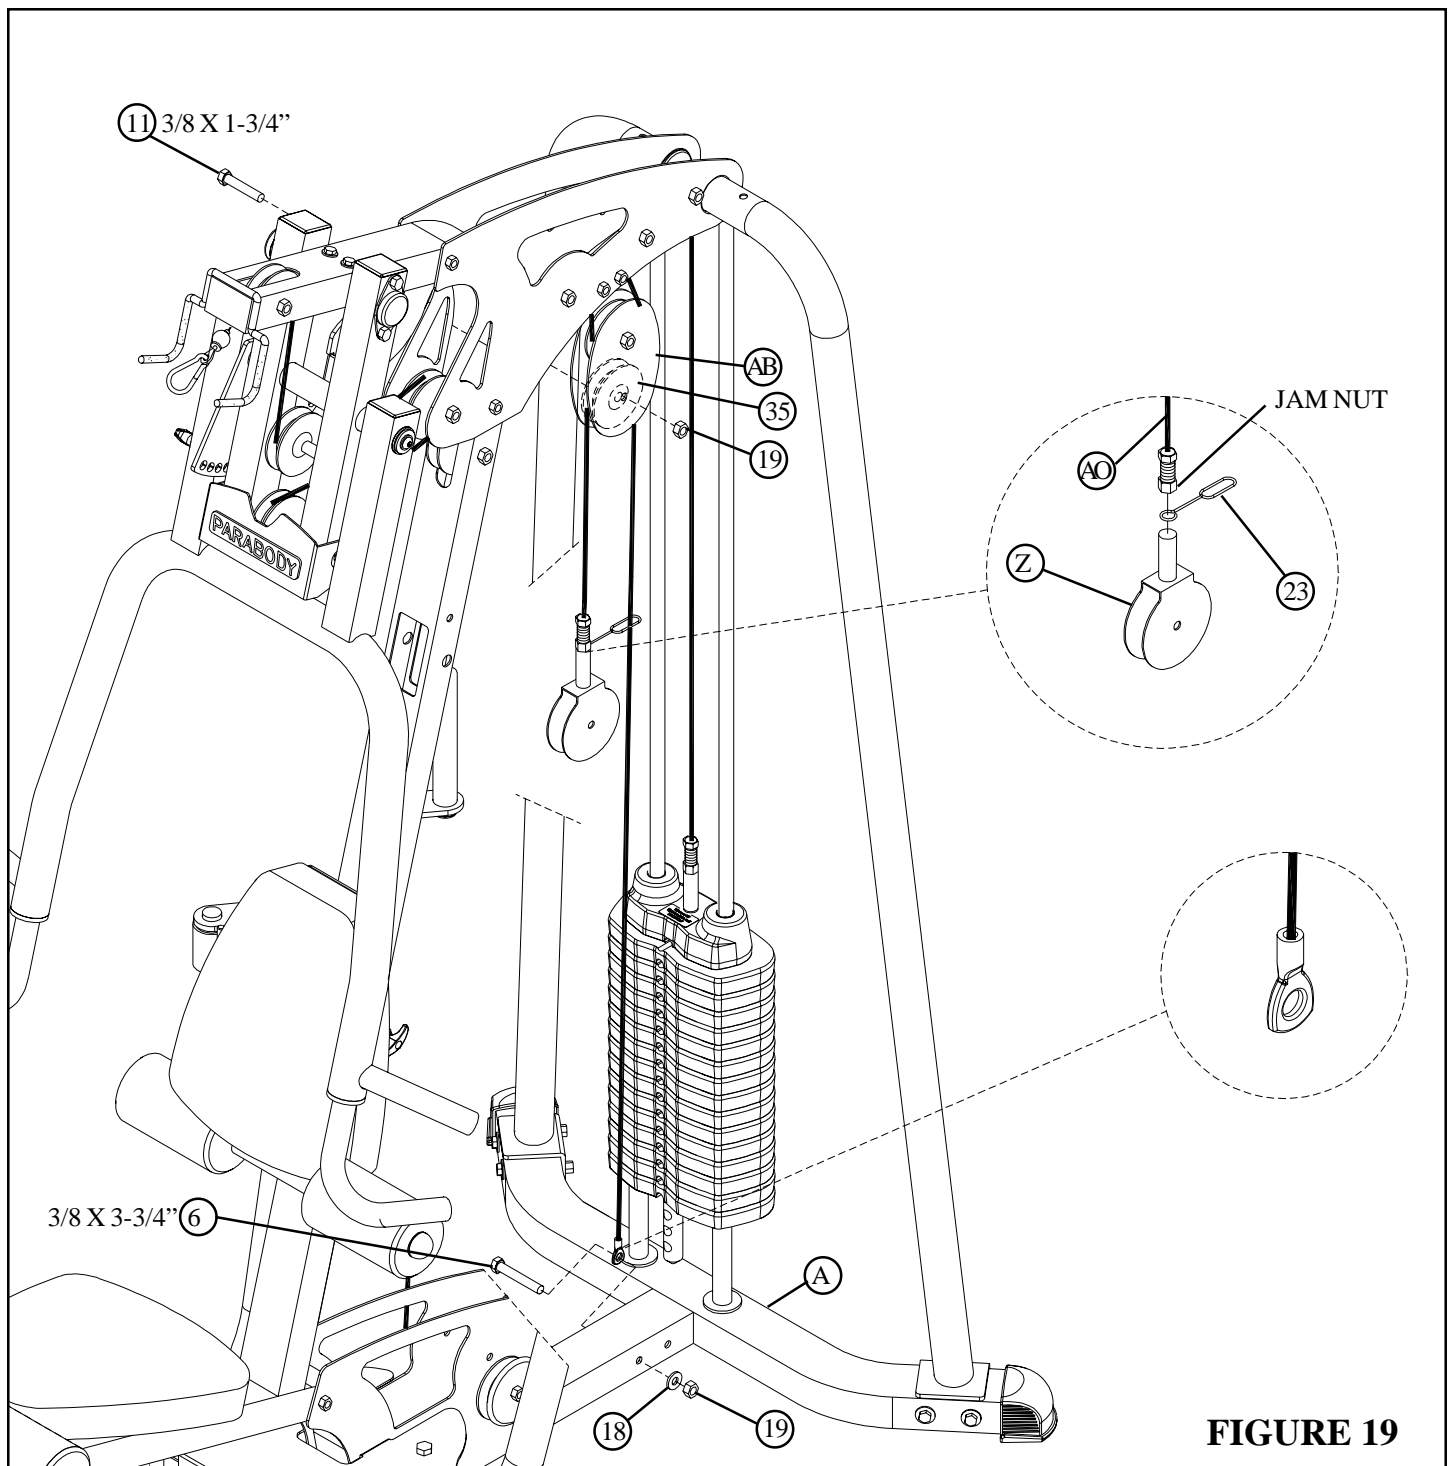

FIGURE 19
- Screw the threaded end of the GUIDE CABLE (AO) into the end of the FLOATING PULLEY BRACKET (Z). Secure the CABLE GUIDE (23) in place with the JAM NUT on the GUIDE CABLE. See FIGURE 19.
- Route the GUIDE CABLE (AO) around one 3-1/2" PULLEY (35) and assemble the PULLEY to the FLOATING PULLEY PLATES (AB) using one 3/8 X 1-3/4" BOLT (11) and one 3/8" LOCK NUT (19). See FIGURE 19. (**NOTE: Make sure the cable runs in the grooves of the pulleys.**)
- Route the hook end of the GUIDE CABLE (AO) thru the CABLE GUIDE (23) then **SECURELY** assemble the hook end of the GUIDE CABLE (AO) to the BASE using one 3/8 X 3-3/4" BOLT (6), one 3/8" WASHER (18) and one 3/8" LOCK NUT (19) as shown in FIGURE 19.